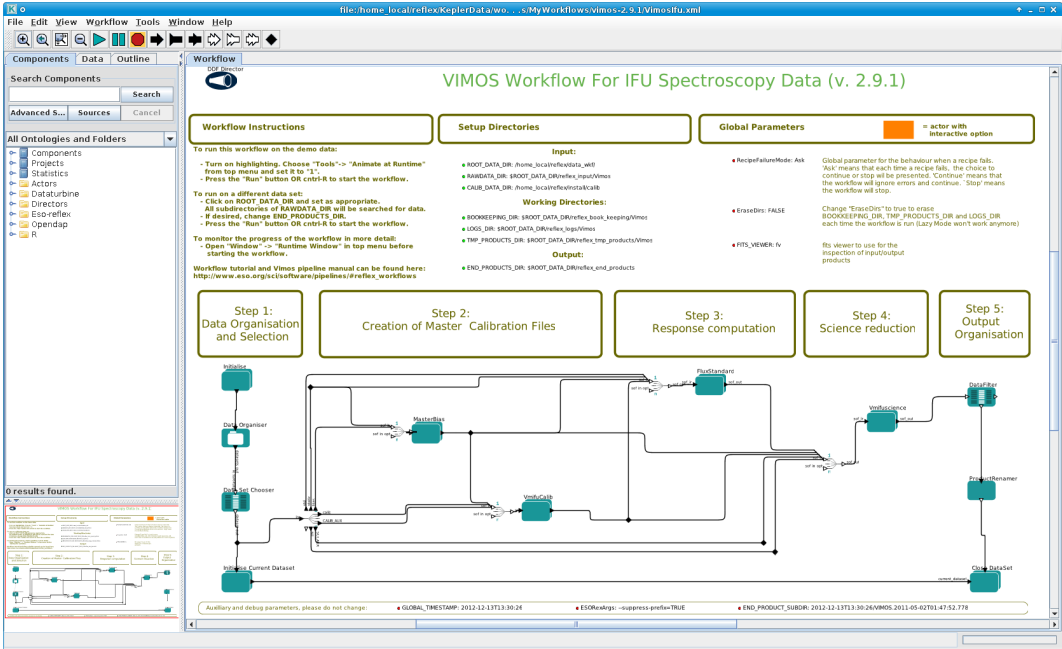

Figure 4.2: *VIMOS/IFU workflow general layout.*
2. Now open the VIMOS workflow by clicking on File -> Open File, selecting first vimos-3.0.0 and then the file VimosIfu.xml in the file browser. You will be presented with the workflow canvas shown in Figure 4.2. Note that the workflow will appear as a canvas in a new window.